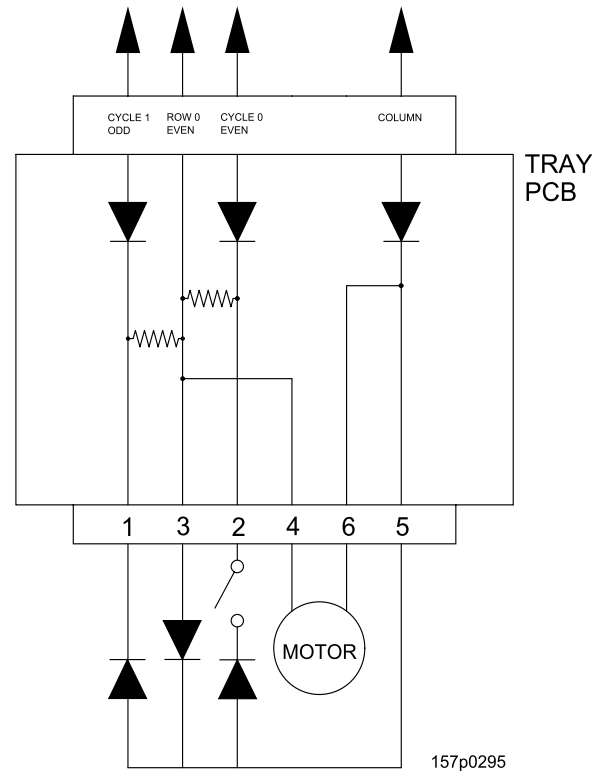

Figure 2
The following example is the sequence of events which occur after an even numbered selection (0) is made. Figure 2 is the motor circuit showing the cycle switch in the closed position. Figure 3 shows the identical circuit with the cycle switch in the open position.